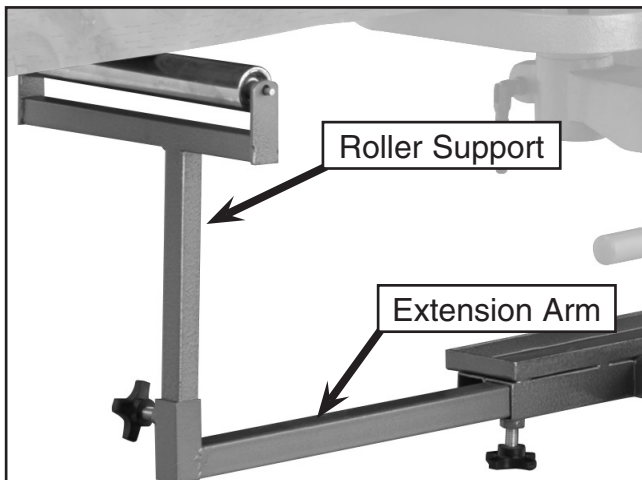

Figure 4. Support assembly.
3. Insert the extensions into the central support and secure with lock knobs (**Figure 4**).
4. Slide the roller supports into the extensions and secure with lock knobs (**Figure 4**).